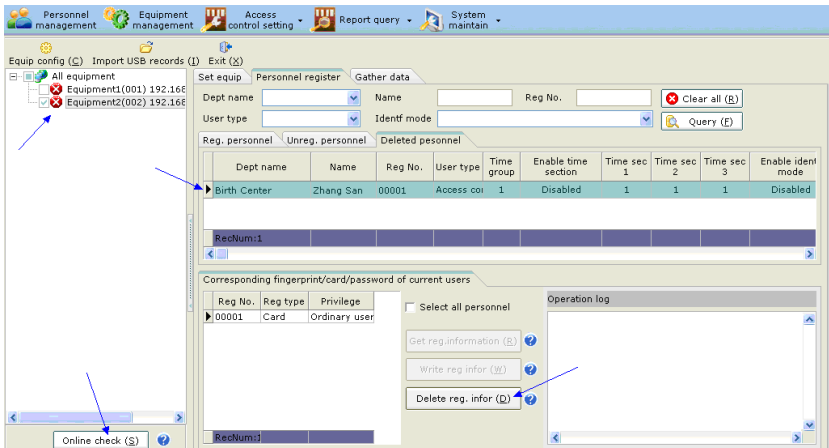

Figure 2.55
- The registered information of deleted/resigned personnel in the equipment can be deleted by “Registering personnel > Deleted/resigned personnel”.(Figure 2.55)